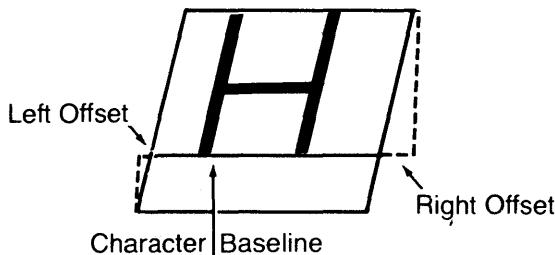

Figure 8-3. Skewed Character Offsets
When the character is skewed, the cell contains left and right offsets as shown in Figure 8-3.
- effects[1] Left offset, positive value relative to position in x-axis NDC/RC units (see Figure 8-3)
- effects[2] Right offset in x-axis NDC/RC units (see Figure 8-3)